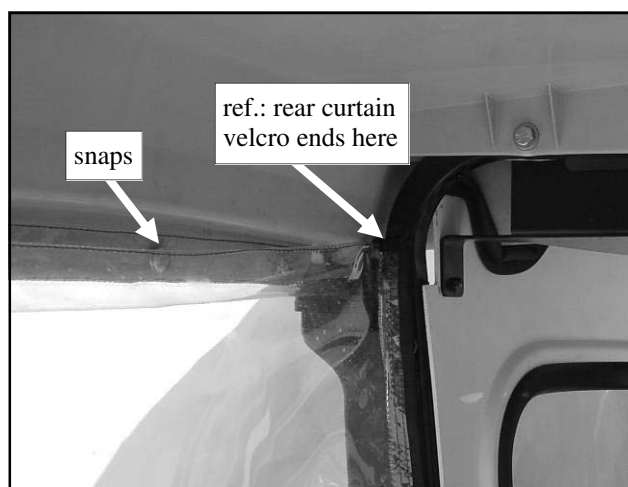

Fig. 4.5 (view from right side)
4.5 Per fig. 4.5, snap the rear curtain in place then per step 4.6 below, adhere the sides to the newly installed velcro on the inside vertical surfaces of the rear tubing as shown. Note: the top rear corners will end up fairly high to form a shelf/pocket as will be self evident once it's been worked into place.